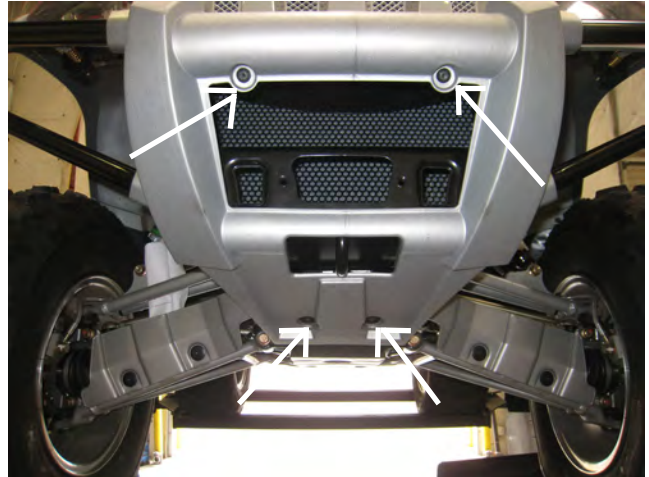

Figure 1
1. Remove the plastic front skid plate (Figure 1). Use a T30 Torx head to remove the four bolts securing the front skid plate to the front bumper.